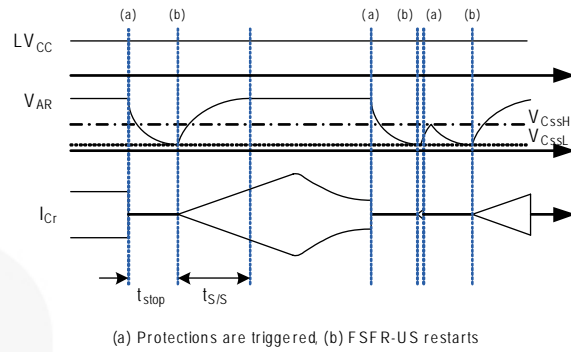

**Figure 20. Internal Block of AR Pin**
**4. Self Auto-restart:** The FAN7621S can restart automatically even if a built-in protection is triggered with external supply voltage. As shown in Figure 20 and Figure 21; once any protections are triggered, M1 switch turns on and V-I converter is disabled.  $C_{SS}$  starts to be discharged until the  $V_{C_{SS}}$  across  $C_{SS}$  drops to  $V_{C_{SSL}}$ . Then all protections are reset, M1 turns off, and V-I converter resumes. The FAN7621S starts switching again with soft-start. If the protections occur while  $V_{C_{SS}}$  is under  $V_{C_{SSL}}$  and  $V_{C_{SSH}}$  level, the switching is terminated immediately,  $V_{C_{SS}}$  continues to increase until reaching  $V_{C_{SSH}}$ , then  $C_{SS}$  is discharged by M1.